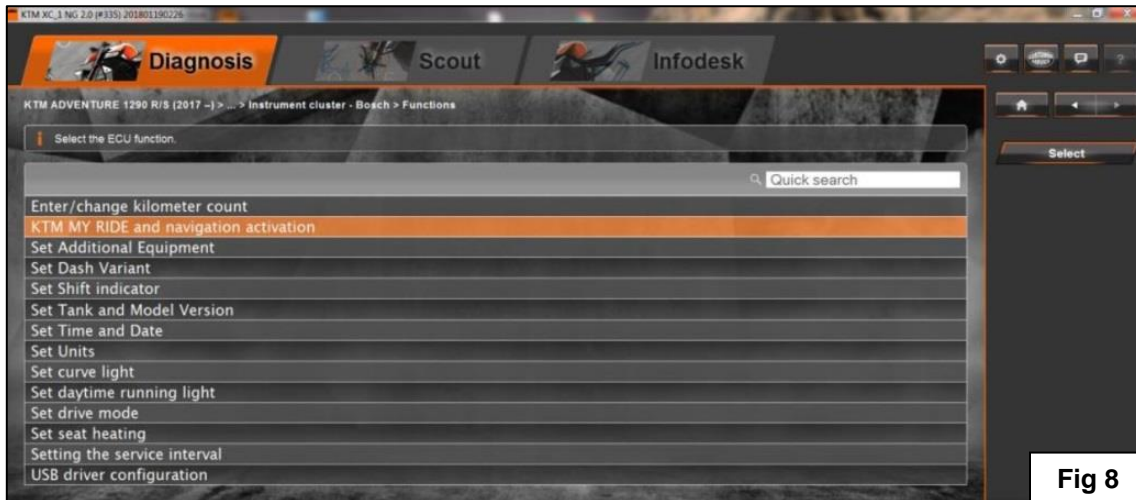

Fig 8
1. Power on the motorcycle with the passive ignition key (**Fig 7**) by holding it directly on top of the antenna. If only the FOB is available – remove the battery from it so that it functions the same as a passive key (**Fig 8**).
7. Turn on the ignition and enter the "VDO" Instrument cluster ECU, select the "FUNCTIONS" button and be sure to program all of the features and functions to suit the particular model motorcycle (**Fig 8**).